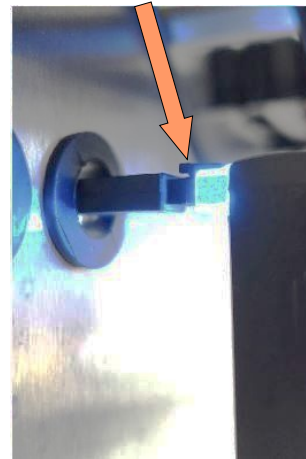

Figure 22:
- Unlock and disconnect the connector of the valve to be replaced (see figure 22).